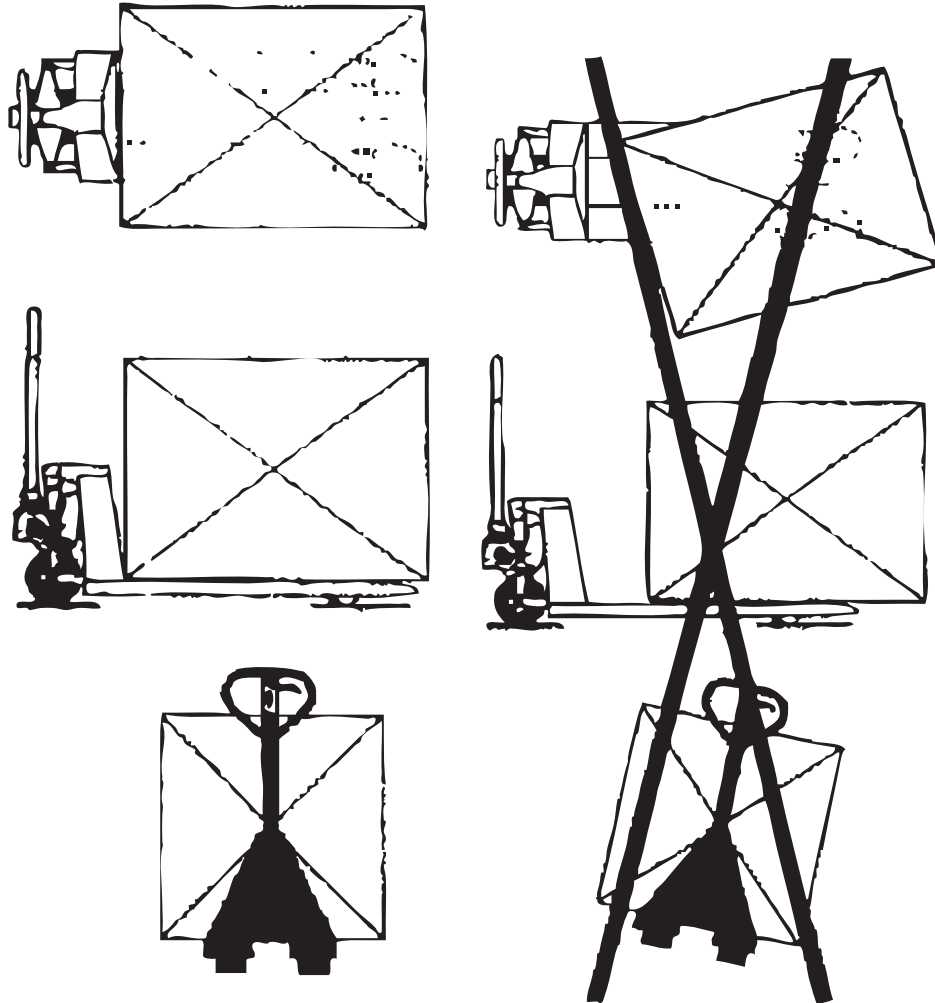

Fig. 6.
- The cargo loading type is shown as fig 6.